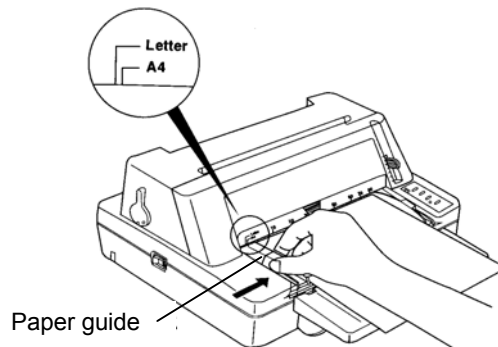

Figure 3-3 Adjusting the paper guide
- 3 Position the left hand cut sheet guide by referring to the marking on the window cover. The positions for A4 and Letter size paper are indicated on the left side of the window cover as shown in Figure 3-3.